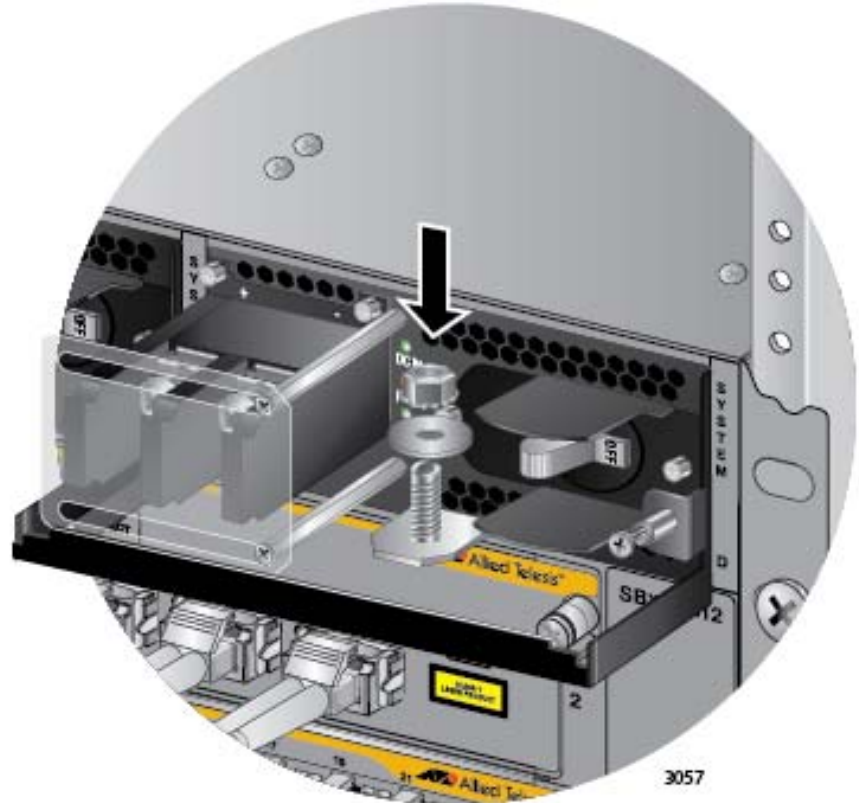

Figure 157. Reinstalling the Nut and Washer on the Grounding Post
10. Reinstall the nut and washer on the grounding post. Refer to Figure 157 on page 245.